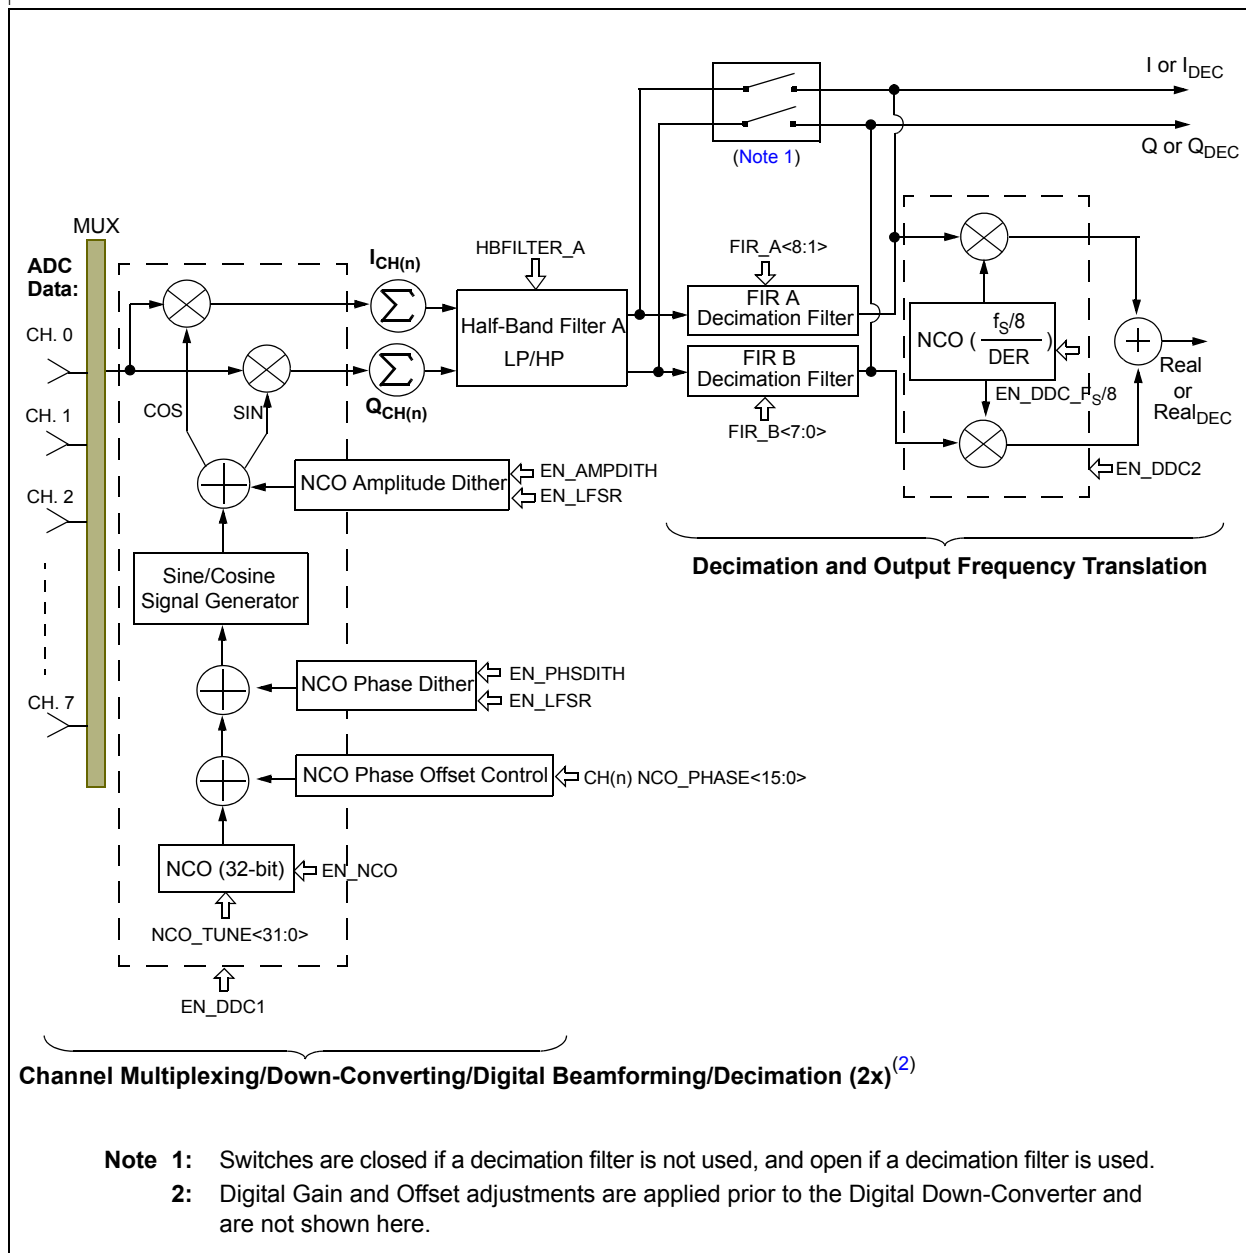

FIGURE 4-24: Simplified Block Diagram of CW Beamforming and I/Q Signal Processing - Available in MCP37D11-200 Only.
Along with beamforming, many modern medical ultrasound devices support Doppler imaging, which processes phase information in addition to the classical magnitude detection (for brightness imaging). Ultrasound Doppler signal processing is used to determine movement in the body as represented by blood flow, which can help diagnose the functioning of a heart valve or blood vessel, etc. In a traditional ultrasound system, all of these functions are typically accomplished with discrete components. Figure 4-24 shows an example of an ultrasound system implementation using various specialized components.
- **Down-Conversion for each channel** with a unique phase of the same NCO frequency prior to summing the eight channels as shown in Figure 4-24.